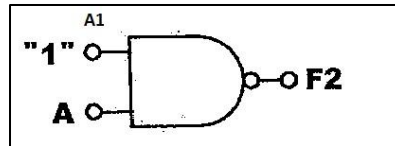

Figure 2.2
- 2.2 Remove the jumper between inputs A and A1 from the previous connection made in section 2.1 (Figure 2.1). Instead, connect input **A1** to logic “1” (Vcc) by using the data switch to simulate the NAND-gate circuit illustrated in **Figure 2.2**. Observe the output state at F2, when SW0 = 0 and SW0=1. Record the observation in a truth table and label it as **Table 2.2**. Discuss your result. What does the circuit act as?